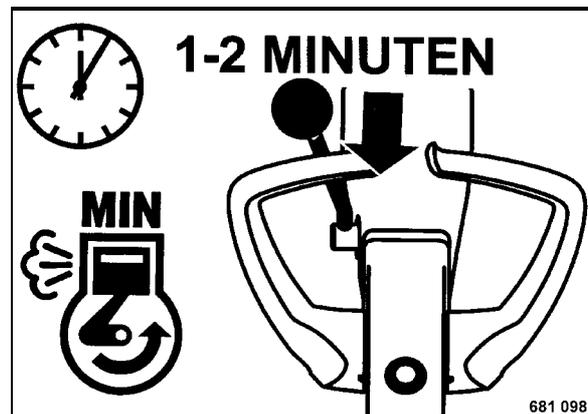

Fig. 15
- Set the throttle lever (Fig. 15) to position "MIN" (idle speed).